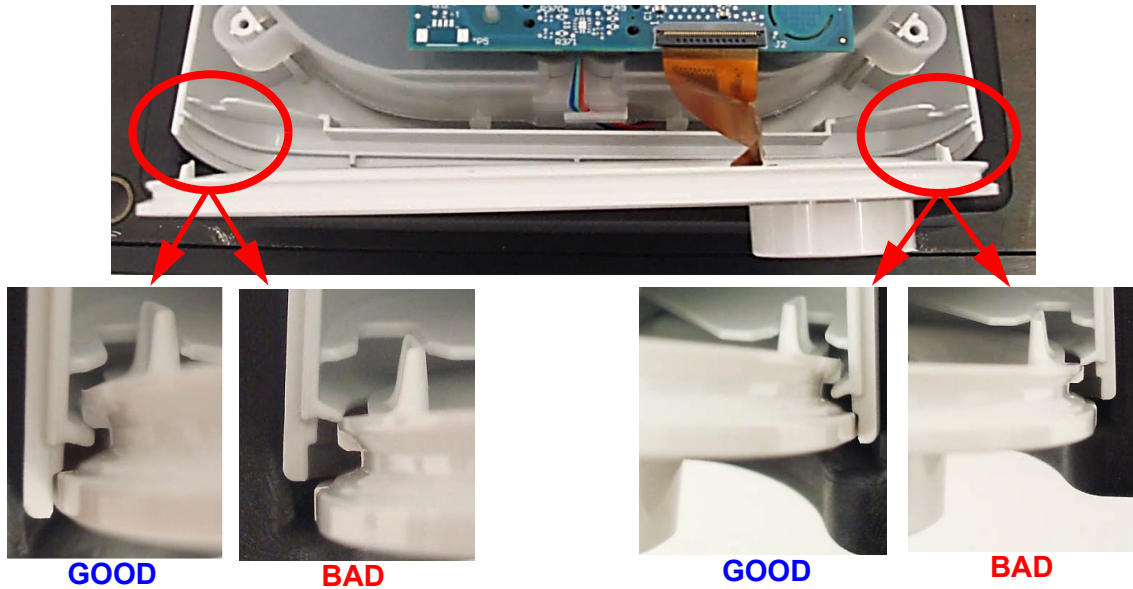

FIGURE 7-9: UI PANEL ALIGNMENT
2. Seat the PCA onto the Blower Cap standoff and screw bosses, ensuring to position the Humidifier Connector located on the PCA into the groove of the Rear Panel (refer to Figure 7-9), and positioning the Flow and Pressure Sensors into the Seals (refer to Figure 7-10).